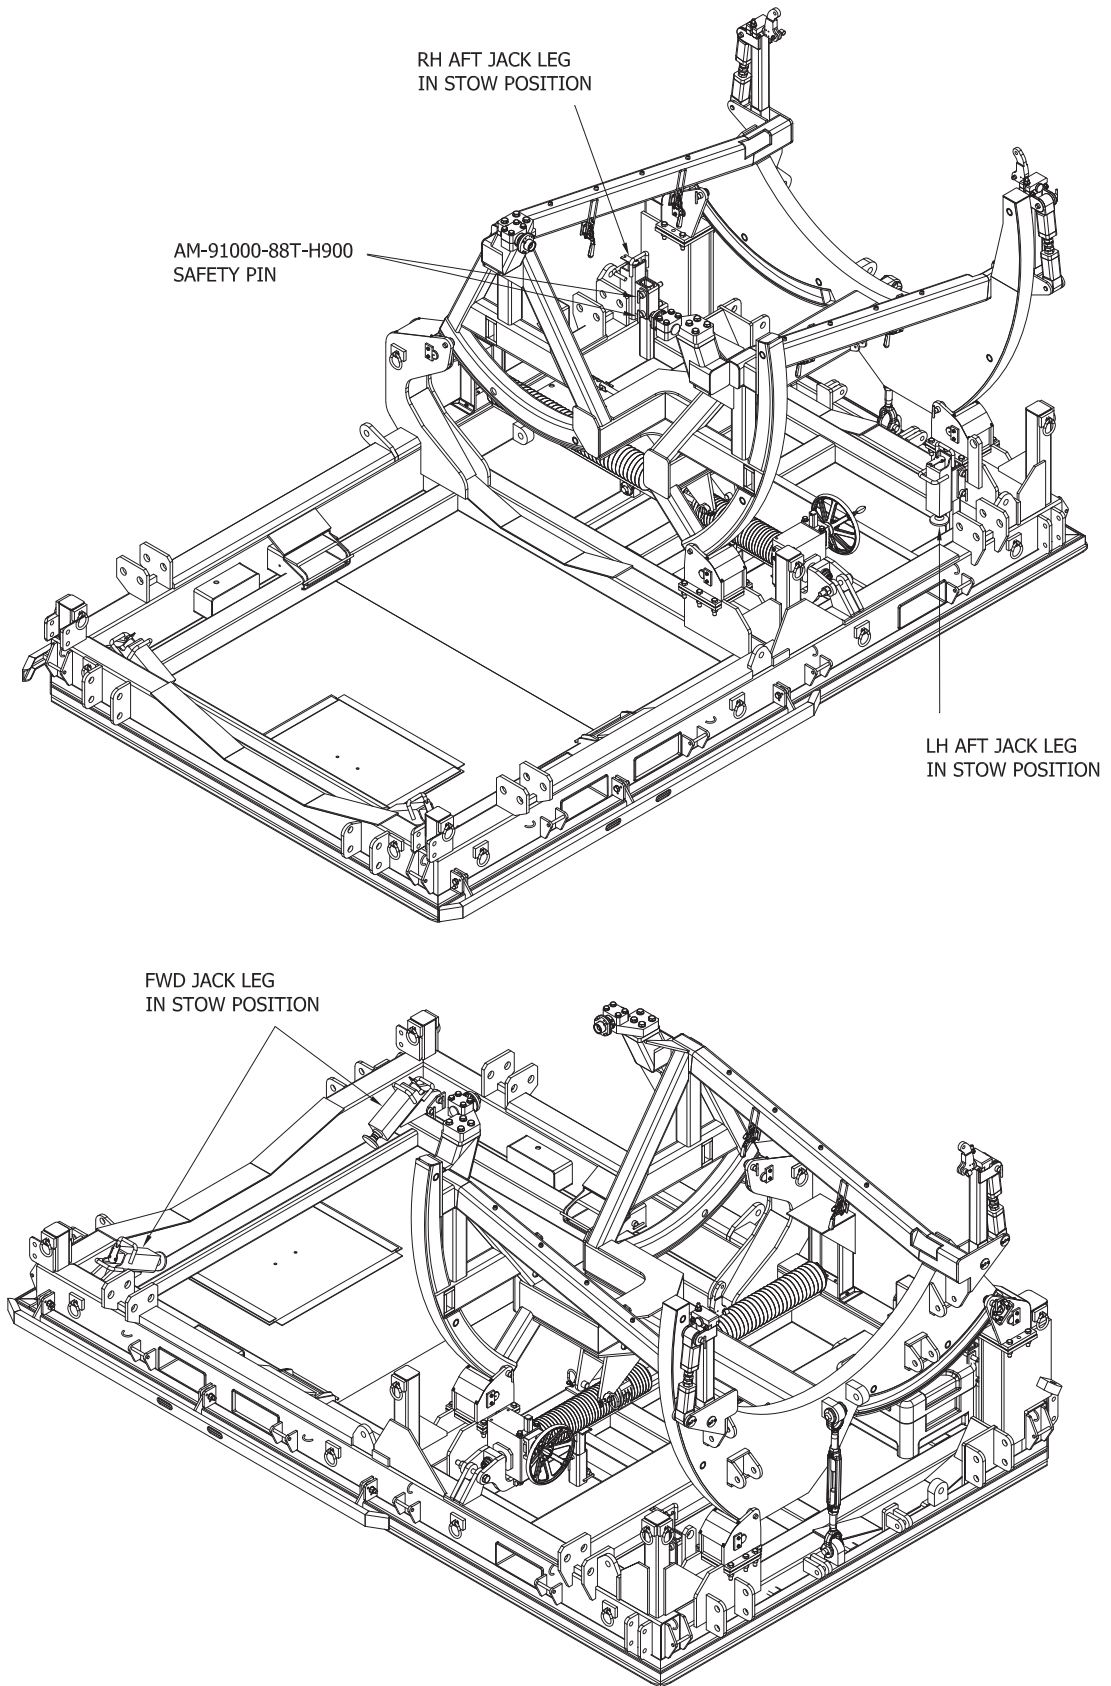

Figure 5.7-2
There are four (4) hydraulically operated jack legs stowed at the four corners of the stand base (Figure 5.7.2). These legs are used to install/remove/stow casters and shock mounts. A manual hydraulic pump is secured to the base opposite the cradle rotation drive system. The pump is connected to the jacking legs by rigid mounted tubing and hoses. Oil flow from the pump is controlled by a 3-position selector valve that directs the flow to either the forward two jacking legs or the aft two jacking legs. The center position of the valve handle blocks oil flow to either pair of cylinders. To retract the legs, move the selector valve handle as noted on the support bracket then open the pressure release valve on the pump to retract the cylinders (Figure 5.7-1).